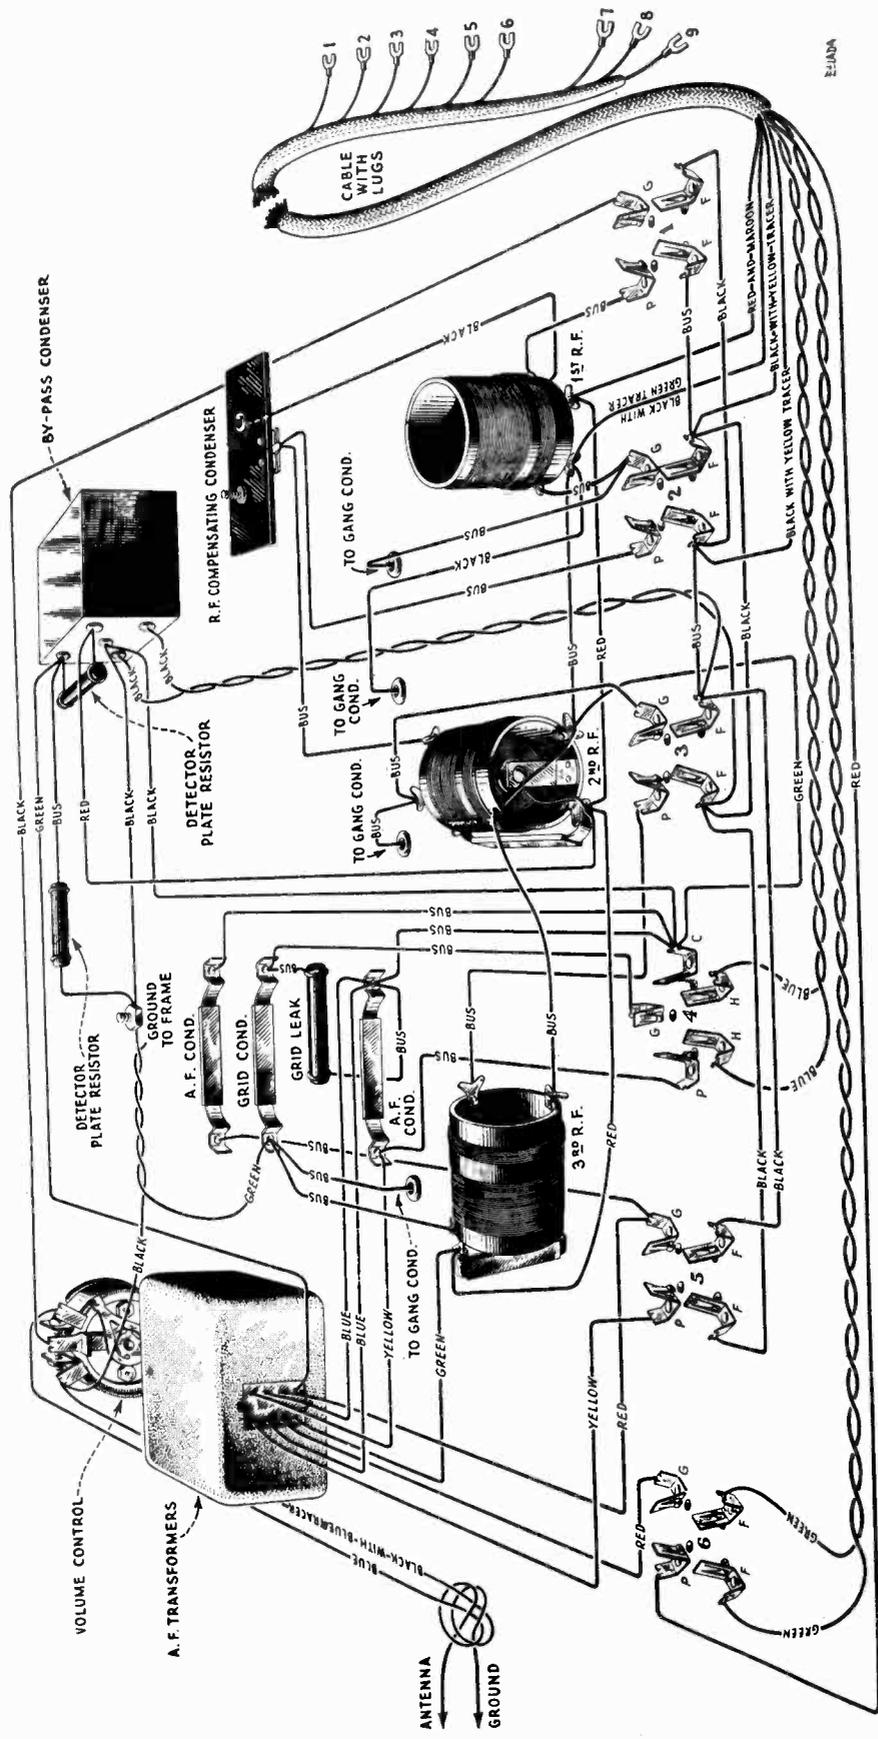
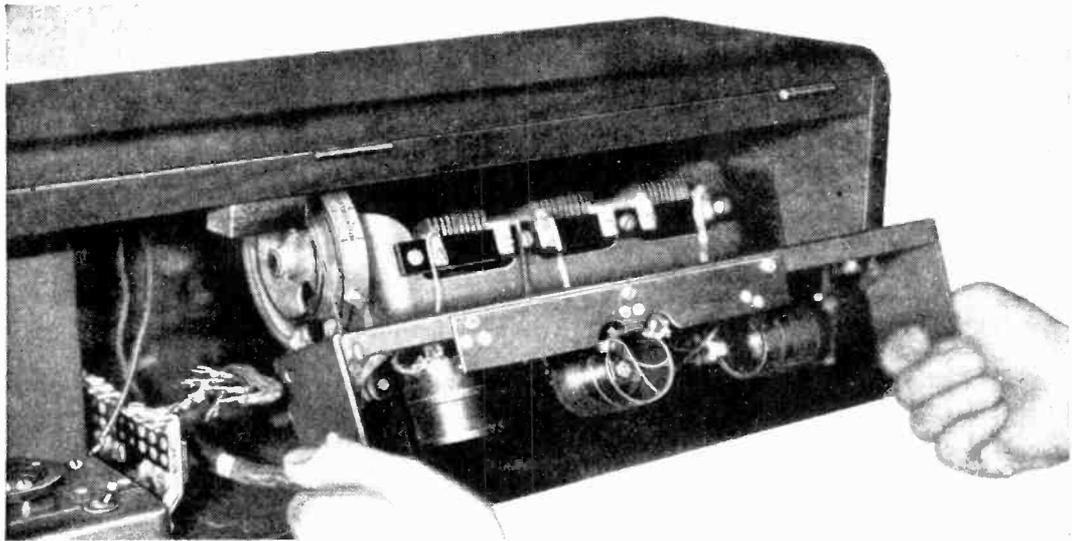

Figure 10—Wiring diagram of receiver sub-chassis assembly showing location of parts and color scheme of connections.
Figure 12—Removing receiver chassis assembly from cabinet.
The following tests will show complete continuity for the receiver assembly (Figure 10) and the Socket Power Unit (Figure 11). Disconnect the antenna and ground leads; the cable connecting the S.P.U. to the receiver assembly, and the A.C. supply cord at its outlet.
A pair of headphones with at least 4½ volts in series or a voltmeter with sufficient voltage to give a full scale deflection when connected directly across the battery terminals should be used in making these tests. The receiver sockets, numbers and lugs used in these tests are shown in Figure 10. The S.P.U. terminals are shown in Figure 11.
- (4) Release the cable connecting the socket power unit to the chassis assembly and the two leads to the pilot lamp. This is done by loosening the screws holding them to the terminal strip of the socket power unit.
- (5) Remove the four screws holding chassis in place to bottom of cabinet. The chassis may now be removed by rocking it in the cabinet and slipping it out of the back opening. (See Figure 12.)
- (6) Unsolder and tag the leads to the volume control.
- (7) Remove the two screws that hold the volume control to the metal chassis. The volume control may now be removed and the new one fastened in place. The connections to the new volume control should be made as indicated on the tags attached to the wires, or refer to Figure 10.
- (8) The Radiola is reassembled in the reverse order of that already given.
- (1) Remove the chassis assembly from the cabinet as described in Part III, Section 1.
- (2) Unsolder and tag all connections to the three transformers.
- (3) Remove the three screws that hold the mounting strip to the metal chassis. The entire assembly can now be removed. The new assembly is placed in the position occupied by the old one.
- (4) Replace the screws that hold the mounting strip to the metal chassis.
- (5) Replace and resolder all leads to the three transformers as indicated on tags previously attached to them. These connections are shown in Figure 10. When making this replacement be careful not to disturb the two condensers connected across the concentrated coils. Placing these condensers closer to the coils than their normal position will affect the inductance of the coil with a resulting decrease of sensitivity.
- (6) Return chassis assembly to cabinet and replace all screws and knobs. Now adjust the compensating condenser to the correct position as indicated in Part II, Section 10.
- (1) Remove chassis assembly from cabinet as described in Part III, Section 1.
- (2) Remove and tag all leads to the terminals of the sockets.
- (3) Drill out the rivets holding the sockets to the metal chassis frame. In some cases it may be necessary to loosen the R.F. transformer assembly in order to slip the socket strips out.
- (4) The socket assembly is now removed and the new one placed in the position occupied by the old one.
- (5) Fasten new socket in place by using small head machine screws, nuts and lock washers in place of the rivets previously removed.
- (6) Replace connections as indicated on tags attached, or refer to Figure 10 for the correct socket connections.
- (7) Return chassis to cabinet.
- (1) Remove chassis from cabinet as described in Part III, Section 1.
- (2) Remove tuning condenser assembly from chassis as described in Part III, Section 4.
- (3) Unsolder the leads connected to the defective condensers.
- (4) The four tabs holding the condenser to the chassis may now be bent up with a screw-driver and the old condenser replaced by the new one. Insert the tabs in the holes and bend them over on the upper side of the chassis assembly. Resolder the leads to their correct terminals. The connections are shown in Figure 10.
- (5) Replace the tuning condenser assembly as described in Part III, Section 4.
- (6) Return chassis assembly to cabinet in reverse order of that used to remove it.
- (1) Remove receiver chassis from cabinet as described in Part III, Section 1.
- (2) Unsolder and tag all leads to the audio transformers.
- (3) Use a screw-driver to turn up the tabs that hold the transformer assembly to the chassis frame and remove it.
- (4) Place the new transformer in the position occupied by the old one, bend over the tabs and resolder all connections. The correct connections are shown in Figure 10.